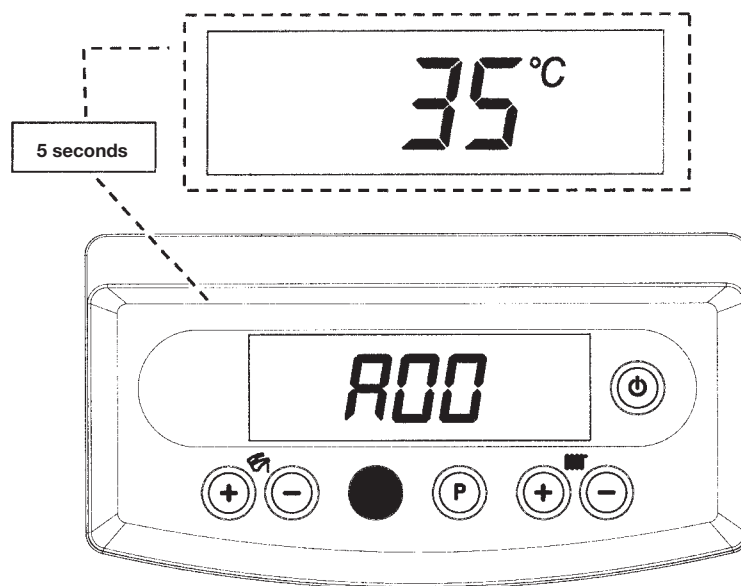

Figure 12
- adjust the tube brass screw (a) Fig. 12 to obtain the pressure settings shown in table 1;
- disconnect the modulator feeding cable and unscrew the (b) Fig. 12 screw to reach the pressure setting corresponding to reduced heat output (see table 1);